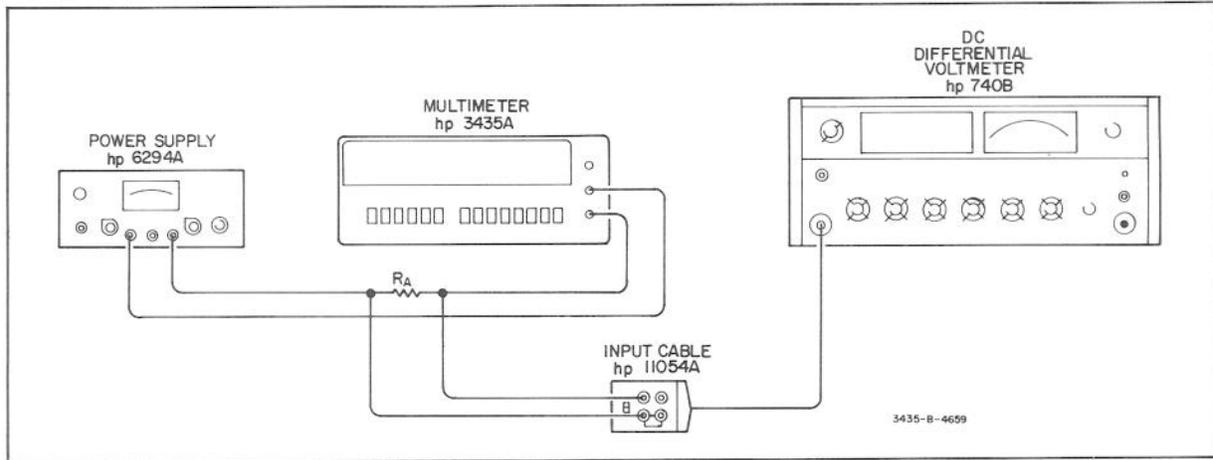

Figure 5-4. DC Ammeter Accuracy Test.
a. Connect the Multimeter and test equipment as shown in Figure 5-4.